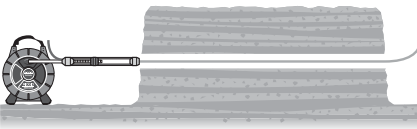

Figure 15 – Utility Line Pulled Through Bore
- Using the rope, pull the CROSSCHEK Inspection System back through the bore with slow, steady force (*Figure 15*). Do not use excessive force, this could damage the equipment. If desired, the inspection can be repeated as the unit is pulled back. This may allow better inspection results.